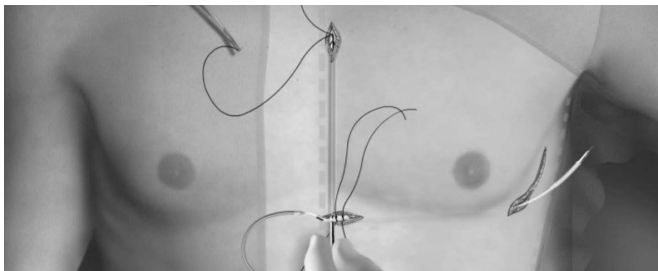

Figure 14: *Tunneling to Superior Incision*
7. Insert the distal tip of the EIT into the xiphoid incision and tunnel subcutaneously towards the superior incision, staying as close to the deep fascia as possible (*Figure 14*).